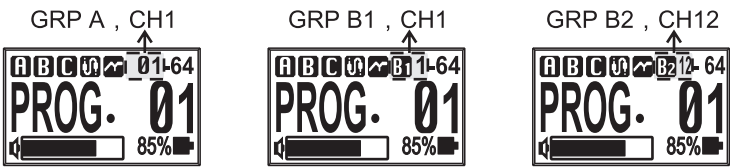

Fig. 10
- (B) Receiver audio output and parameter status.
- (1) **ABC** Icon indicates programmed AF output jack signal status.
- (2) Icon indicates the Cable Tone is added.
- (3) Icon indicates the Anti-feedback or Acoustic Response is added.
- (C) Synchronized transmitter GRP and Channel, Fig. 10
- (D) Synchronized transmitter ID
- (E) Programmed Name
- (F) Transmitter battery level in %, TxOFF is shown when the transmitter is powered off.
- (G) Audio signal level, TxMute! is shown when mute is pressed on a transmitter that has a mute function.